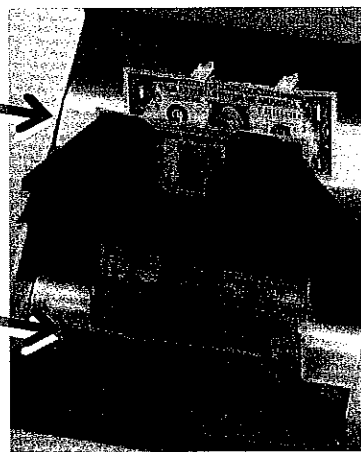

Figure 6: Stacker Output Trays
6. Place notes on the feed tray. Counting begins with the selected denomination feeding to the bottom tray; all other denominations and errors off-sort to the top tray. See Figure 6.